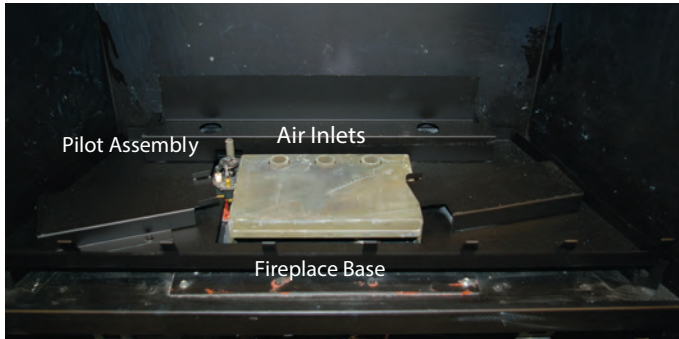
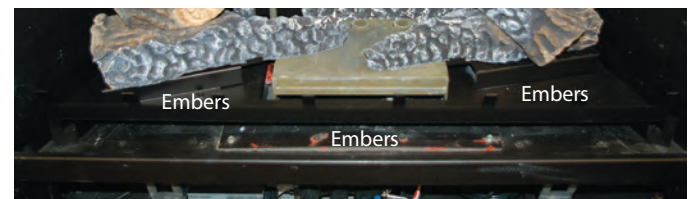

Figure 8a. H34VON's Fireplace Base.
Figure 8f. Placing Embers.
Step 7. Place the Embers as shown in *figure 8f*. Arrange the ember chips on top of the burner tray. Care should be taken when placing the embers, as blocked burner ports may cause an incorrect flame pattern, carbon deposits and delayed ignition. Also, the embers must never be placed in a way that obstructs any of the air inlet ports, located at the rear of the burner, as shown in *figure 8a*.